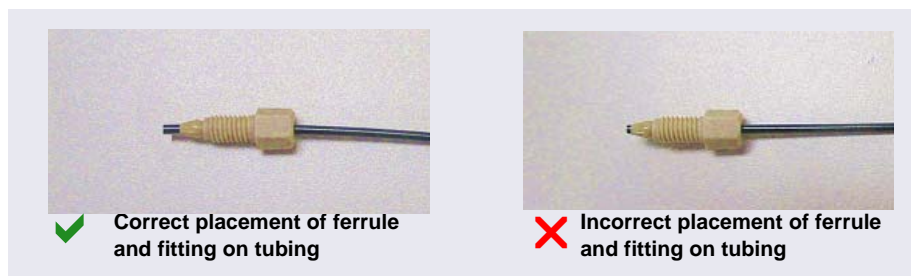

Figure 1-3. Correct and Incorrect Ferrule and Fitting Bolt Placement for Tubing Connections
1. Install the fitting bolt and ferrule onto the tubing. Position the ferrule at least 2 mm (0.1 in) from the end of the tubing (see Figure 1-3).